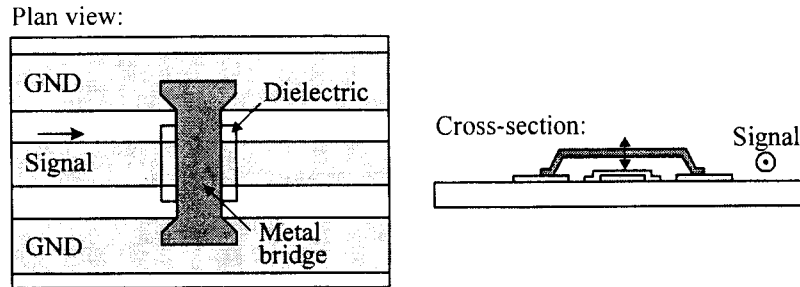

Figure 9
9. (a) (i) Figure 9 shows an electrostatically actuated, capacitive RF shunt switch based on a simple metal bridge structure. Explain with the aid of a force-deflection plot, or otherwise, why a device of this type exhibits *snap-down* behaviour. Also sketch the variation of bridge height with applied voltage. [6]
- (ii) Show that the open-state insertion loss of the switch in Figure 9 may be written as: